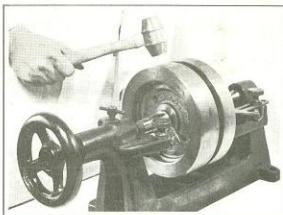

Figure 3-45. Truing Flywheels on Truing Stand
8. When wheels are out of true as indicated in "C," strike the rim of the wheel a firm blow at about 90 degrees from crank pin on high side (see Figure 3-45).